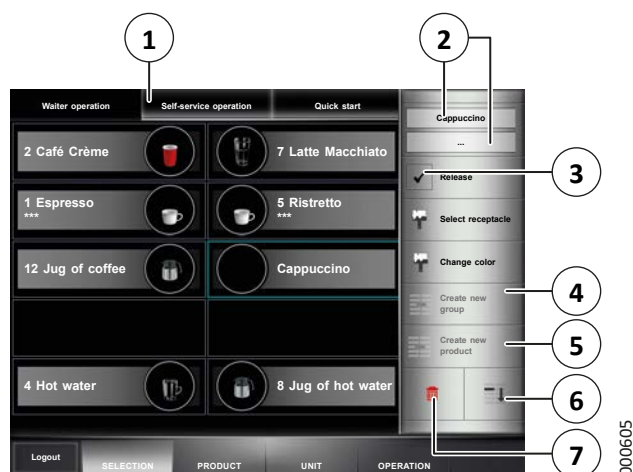

Fig. 28: Menu option “Selection”
4. Under “Language selection” (4), select the language that should be used for the name.
- Select a default name: Under “Category models” (2), select a category and then select a name from the list below (1).
- Enter your own name: Press the corresponding line (3) and enter a name using the screen keyboard (see chapter 7.2 on page 22).
7. Press the “Release” button (3) (see Fig. 28) to activate the created group for dispensing.
3. Press the "Create new product" button (5) (see Fig. 28).
5. Press the "Release" button (3) (see Fig. 28) to activate the created product for dispensing.
2. Press the "Down" button (6) (see Fig. 28) to move the product group or product button downward.
2. Press the delete symbol (7) (see Fig. 28).